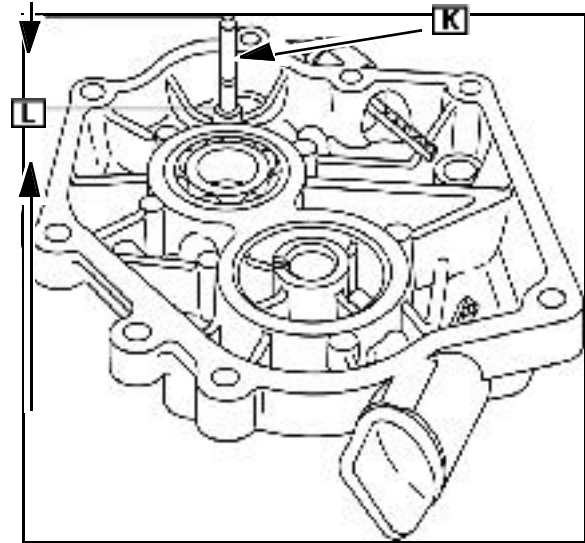

Fig. 18
2. Press either end of the new governor gear shaft (K) into the inside of cylinder cover from the inside until shaft is 1.220 - 1.222 in. (30.99 - 31.04 mm) high (L) from boss, Fig. 18.